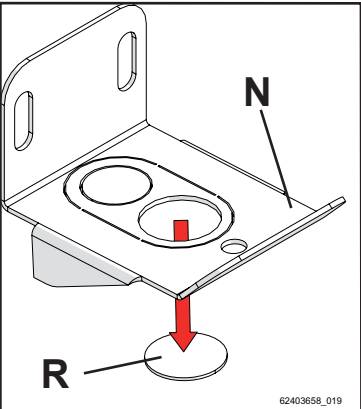

Figure 5-29
- 4 - Remove pre-cut disc "R" from fixing bracket "N", as shown in figure 5-29;